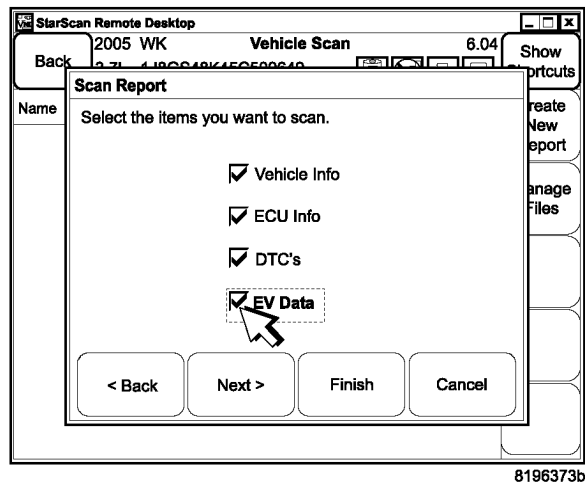

Fig. 5 SCAN REPORT - ITEM SELECTION SCREEN
6. A “Scan Report” dialogue screen appears providing options of adding additional information to the report. In this example we checked “Vehicle Info”, “ECU Info”, “DTC’s” and “EV Data” (Fig. 5).